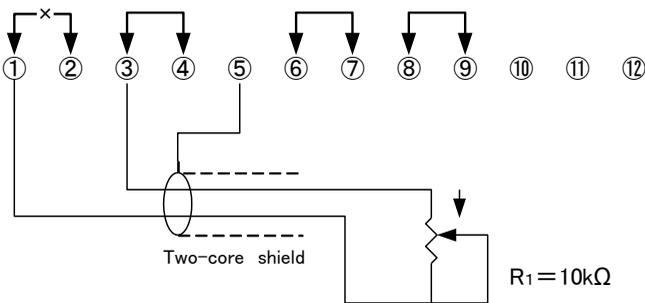

Fig. 7
- 2) Remove the short bar ①—②.
- 3) Connect variable resistor R_1 (10k ohms) across 1 and 3 as shown Fig. 7.